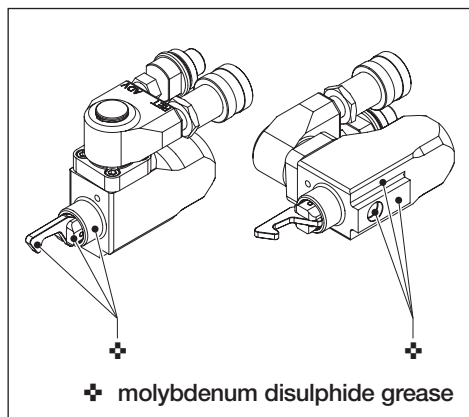

Fig. 13
5.2 Preventative Maintenance - Hydraulic Swivel and Drive Unit (Fig. 13 and 14)